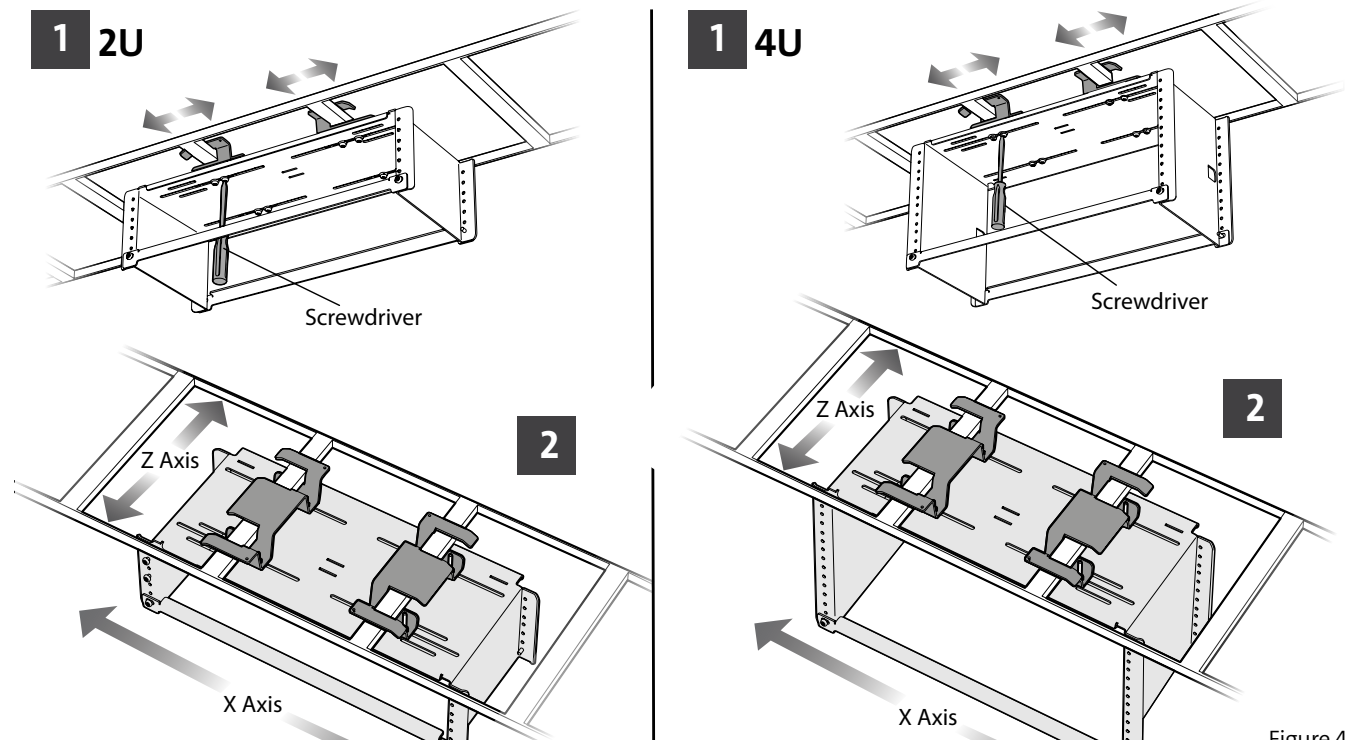

Figure 4
Step 1: Loosen the screws as shown in Figure 4 to allow the rails to slide.
Step 2: Place the mini-frame in the middle of the cross members. Slide the omega brackets to the left and right to lock the system in the horizontal (X) axis.